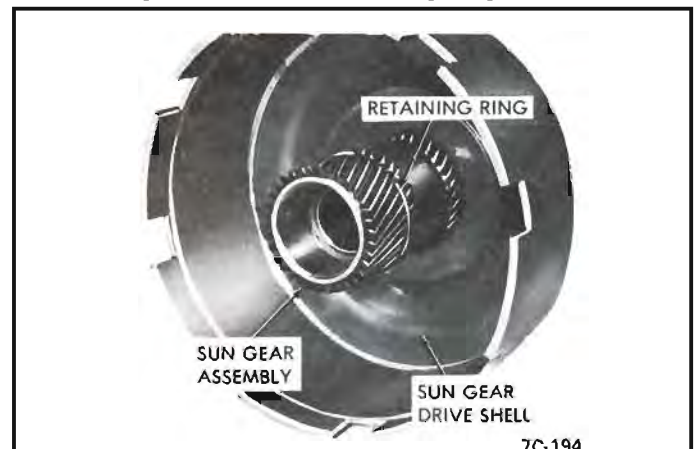

Figure 71 Front Retaining Ring Removal
3. Remove front retaining ring from sun gear. See *Figure 71*.
1. Install sun gear to drive shell front retaining ring, and install into drive shell. *See Figure 71.* Use a new ring and do not overstress when installing.